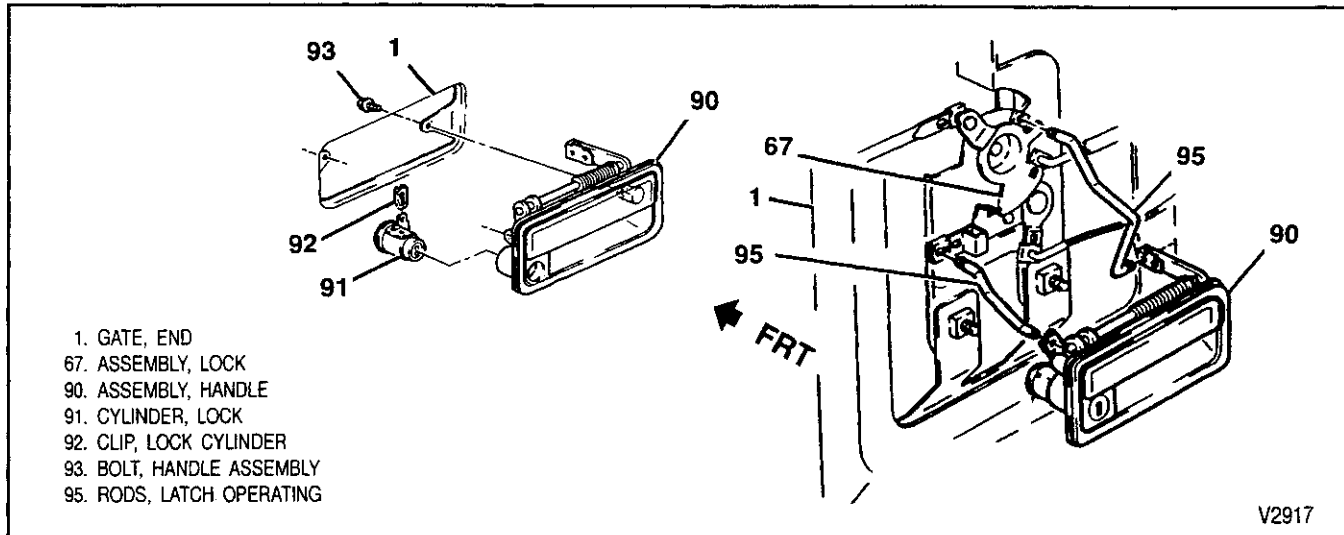

Figure 7—End Gate Operating Handle Replacement
**Remove or Disconnect (Figure 7)**
**Install or Connect (Figure 7)**